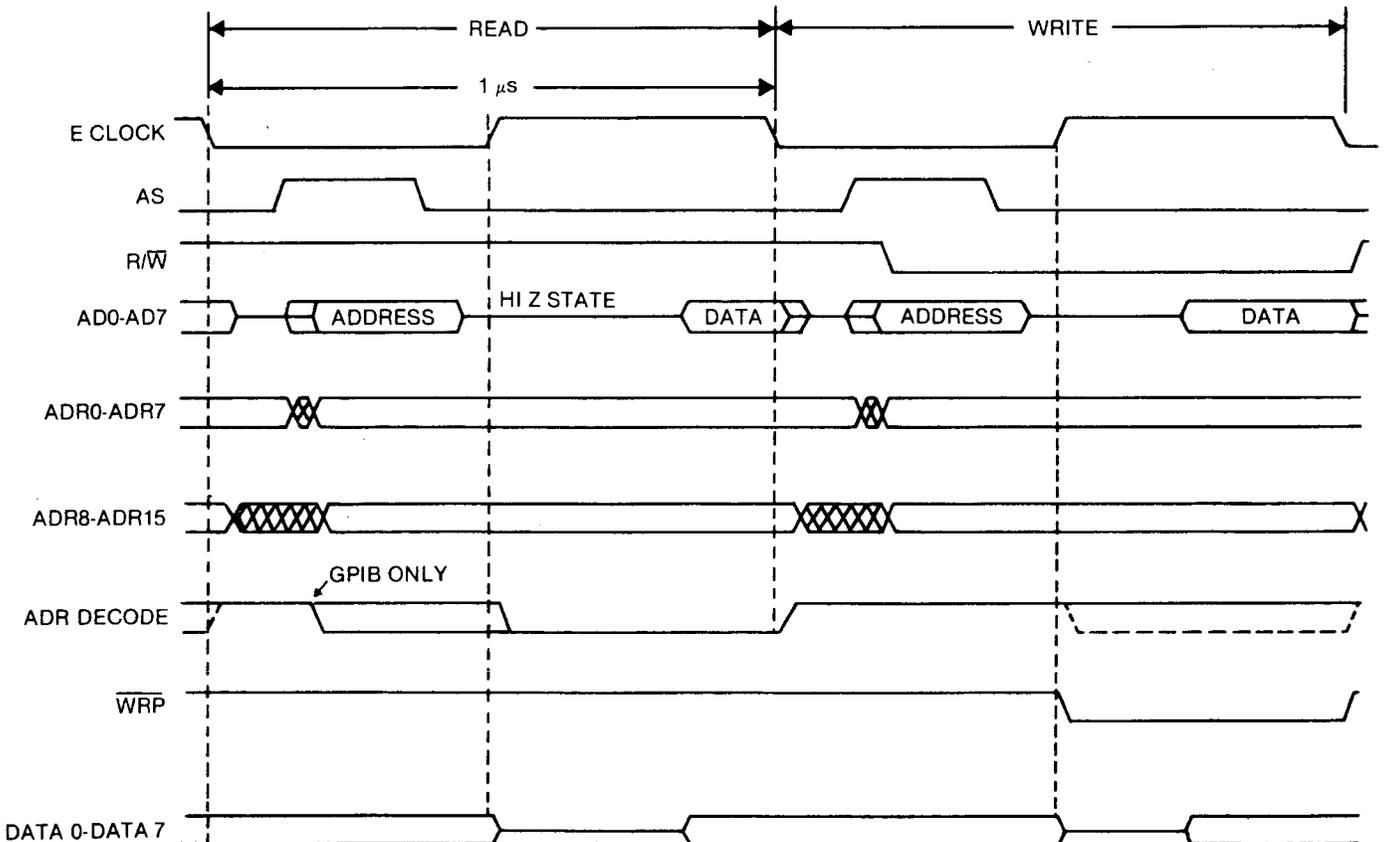

Figure 4-4. Microprocessor Timing Diagram
A clock-generating circuit within the microprocessor uses an external 4 MHz crystal, Y1, between the XTAL 1 and XTAL 2 pins to develop its internal phase clocks and the 1 MHz system enable clock (E). Figure 4-4 shows the approximate timing for major signals and busses in the microprocessor/memory system. Actual system timing varies somewhat from instrument to instrument, so signal spacing may be different within the 1 μ s period of the system clock.
An octal latch, U4, demultiplexes the address/data bus from the microprocessor to hold the low-order addresses (ADR0-ADR7) during the part of the E clock cycle that data occurs on the multiplexed bus. Latching occurs on the negative transition of the AS signal (U3, pin 39). See timing diagram, figure 4-4.